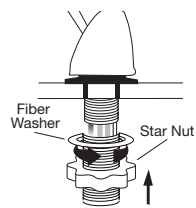

Figure 2
- From under sink, slide 2/4" fiber washer over faucet base. Reinstall threaded extension onto the base until snug. Thread star nut onto extension until snug (See Figure 2).